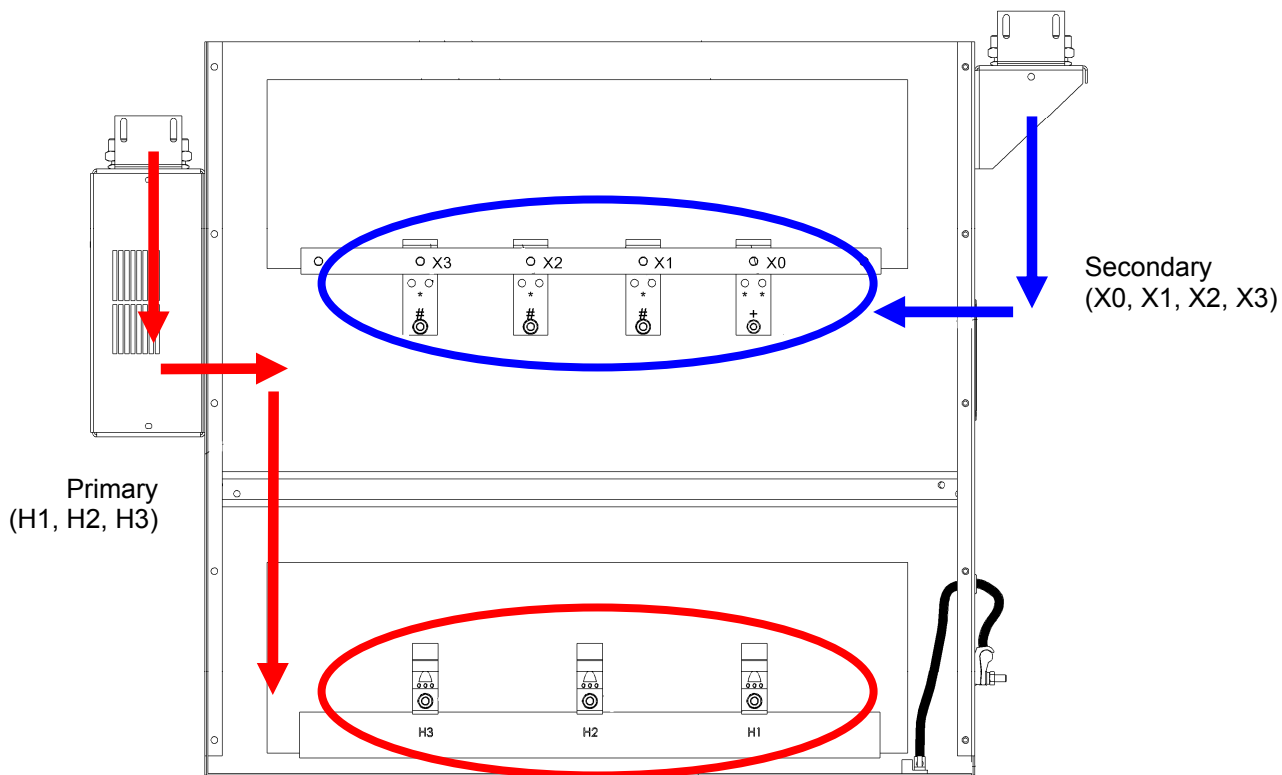

Figure 2-19: NX Power Transformer Primary and Secondary Terminals (access panel removed)
- (o) Route all wires through the top of the NX power transformer's primary side, noting each phase wire passes through a feed-through strain-relief in the top of the transformer's primary side cable tray interface box (see Figures 2-19 and 2-21). Remove the access panel to the power transformer to view the primary terminals (H1, H2 and H3). Ensure there is enough wire to connect to the copper plates (WT05) and ground terminal (WT01) inside the transformer cabinet (see Figure 2-19).
- (q) Ensure each phase is marked with colored tape (ground wire with green tape). Connect the end of the WT05 wires to the copper plates provided for each phase (see Figure 2-19). Secure the wire for each phase to these copper plates [torque to 75 in-lbs (8.4 N-m) for HAM81 lugs]. Connect the end of the WT01 ground wire to the transformer ground stud (on the secondary side of the transformer cabinet).
- (b) Cut lengths of WT04 (three for NX100 systems), WT02 (one wire only) and WT01 (one wire only) that are of sufficient length to comfortably route between the NX power transformer's secondary terminals (see Figure 2-19) and the power compartment of the NX100 transmitter cabinet(s), via the cable tray.
- (c) On the NX power transformer secondary side, install Cytolok connectors on the wire and connect the wires as detailed in the NX100 transmitter's Installation Manual. See Figure 2-19 for secondary connections locations. Ensure the "OO" side of the Cytolok connector is visible for WT04 (535 MCM) wire.